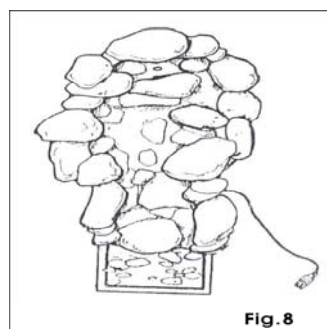

Fig.8
- Plug the Pump power cord into a properly grounded receptacle. The fountain will begin to work (Fig. 8).